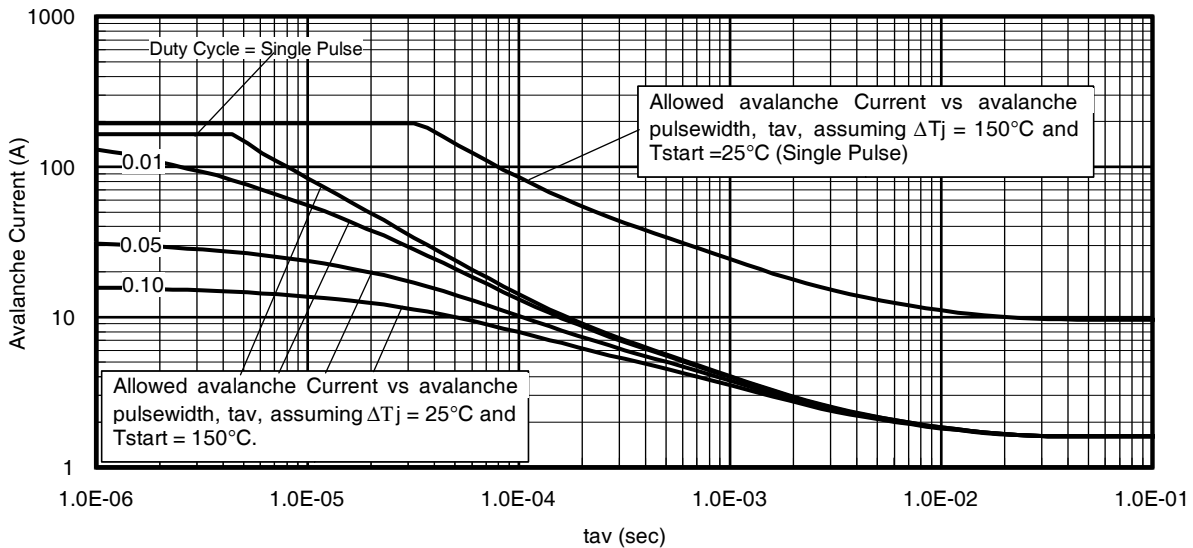

Fig 14. Typical Avalanche Current vs. Pulsewidth
- ④ $I_{SD} \leq 165A, di/dt \leq 430A/\mu s, V_{DD} \leq V_{(BR)DSS}, T_J \leq 175^\circ\text{C}$.
- ⑤ Pulse width $\leq 400\mu s$; duty cycle $\leq 2\%$.
- ⑥ $C_{oss\ eff. (TR)}$ is a fixed capacitance that gives the same charging time as C_{oss} while V_{DS} is rising from 0 to 80% V_{DSS} .
- ⑦ $C_{oss\ eff. (ER)}$ is a fixed capacitance that gives the same energy as C_{oss} while V_{DS} is rising from 0 to 80% V_{DSS} .
- ⑧ When mounted on 1" square PCB (FR-4 or G-10 Material). For recommended footprint and soldering techniques refer to application note # AN-994.
- ⑨ $R_{\theta jc}$ is measured at T_J approximately 90°C .
- ⑩ Limited by T_{Jmax} , see Fig. 14, 15, 22a, 22b for typical repetitive avalanche performance.
- ⑪ $R_{\theta jc}$ value shown is at time zero.
Notes on Repetitive Avalanche Curves, Figures 14, 15:
7. ΔT = Allowable rise in junction temperature, not to exceed T_{jmax} (assumed as 25°C in Figure 14, 15).